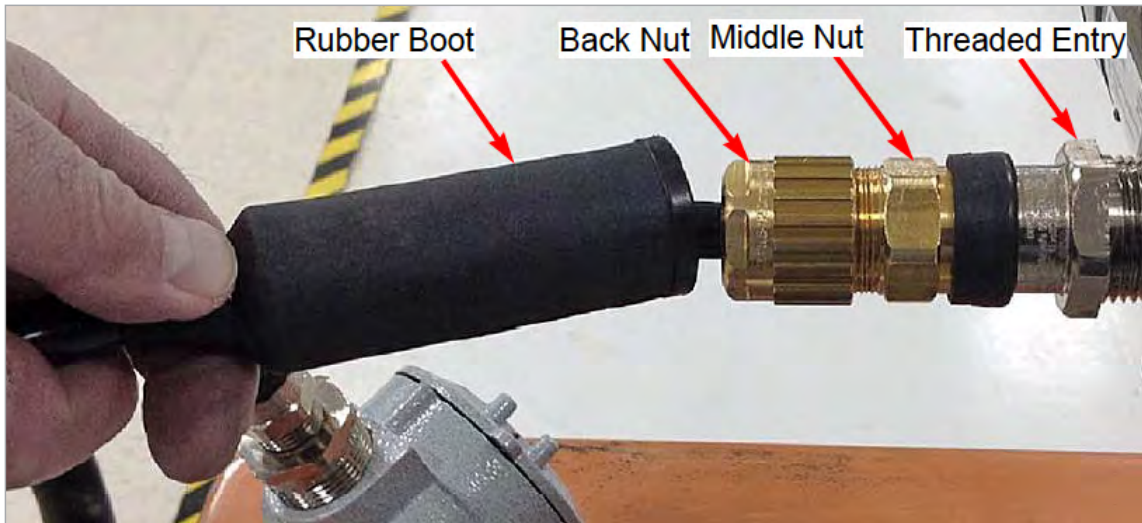

Figure 4: Removing the rubber boot
1. Remove the *Rubber Boot* from the cable gland and slide it back over the cable (see *Figure 4* below).